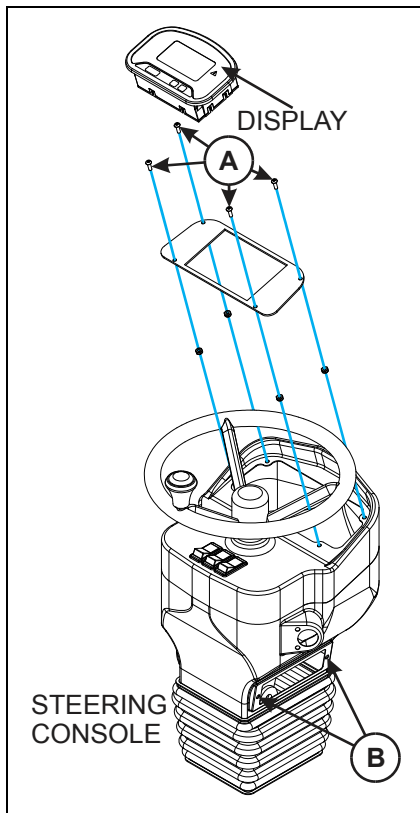

Figure 3-37: Steering Console and Display
5. Remove the four large screws and hardware marked (A), as shown in Figure 3-37.
6. Remove the screws and hardware marked (B).